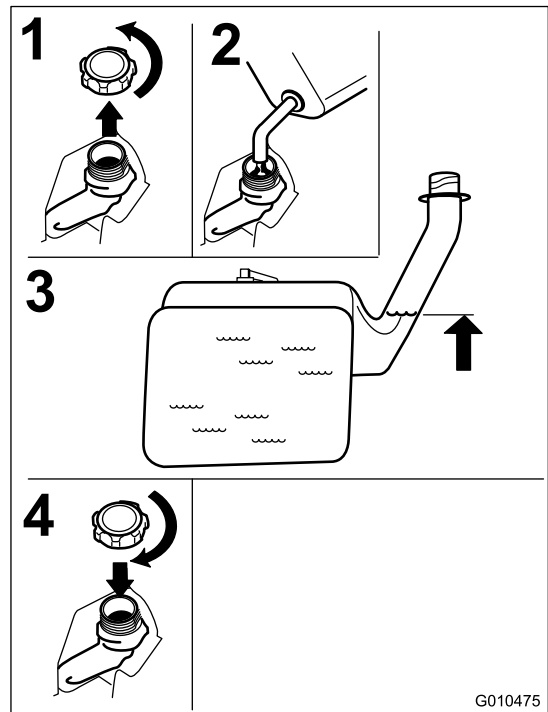

Figure 12
2. Slowly add regular, unleaded gasoline until the fuel reaches the base of the filler neck (Figure 12).